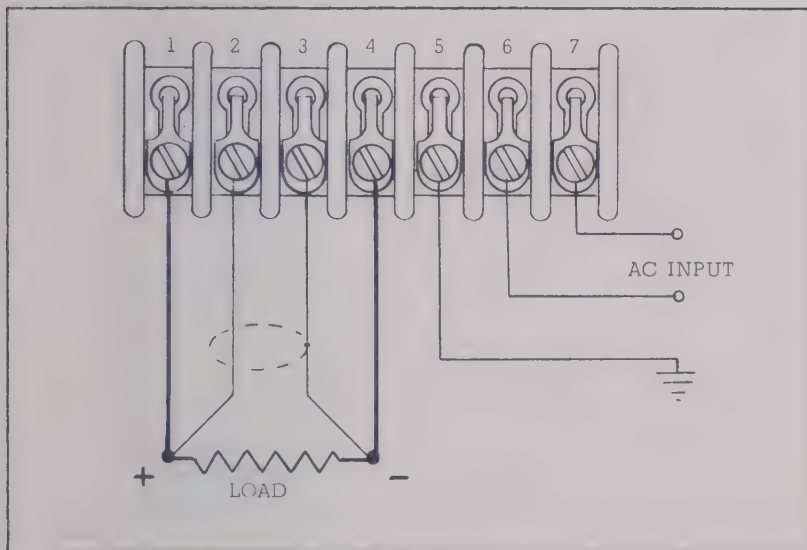

Figure 3-1. Remote Sensing
3-15. If it is desirable to sense (regulate) unit output at the load rather than at the output terminals, remove links between the SENSE and OUT terminals. Using coaxial cable for the sensing leads, connect from SENSE terminals (2 and 3) to the load (see Figure 3-1), with the shield at the negative SENSE terminal (3). Put unit into operation per para. 3-13. The unit's transient response degenerates slightly in remote-sensing operation. If this is an undesirable feature, disconnect output capacitor C7 and reconnect it, or an identical capacitor, locally across the load. Rating of C7 may be determined from parts list in Section VI.